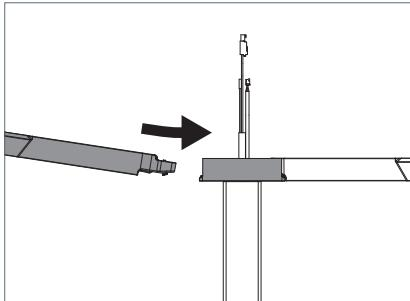

Fig. 8: Mounting luminaire head 2.
- ▶ Insert the supporting arm of the second luminaire head tilted downwards slightly to the stop into the adapter, see Fig. 8.